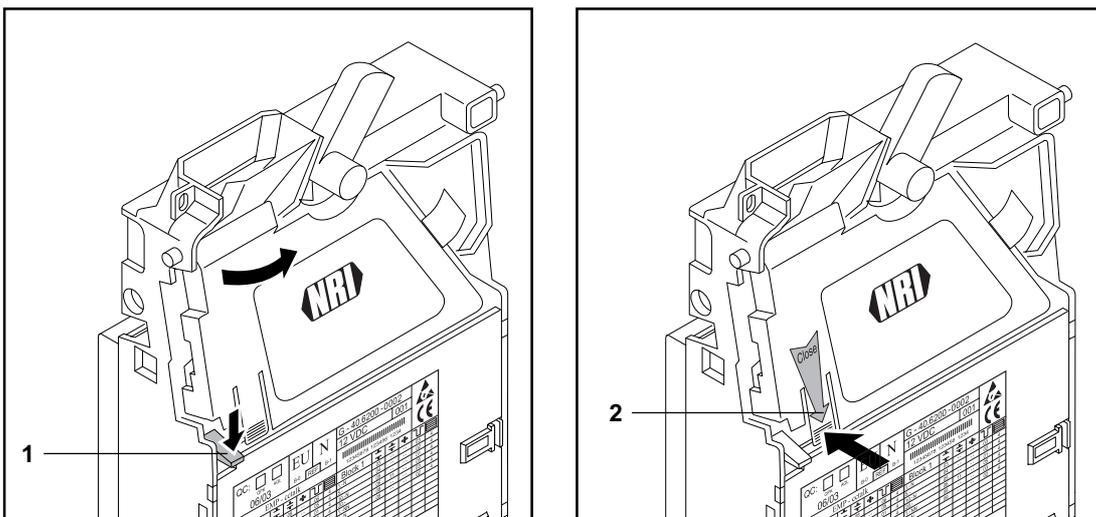

Fig. 5: Open up the coin validator flight deck and close
- 2 Press lever 1 downwards and open the coin validator (Fig. 5).
- 4 Press "Close" arrow 2, so that the metal spring engages behind lever 1, in order to close the coin validator (Fig. 5).